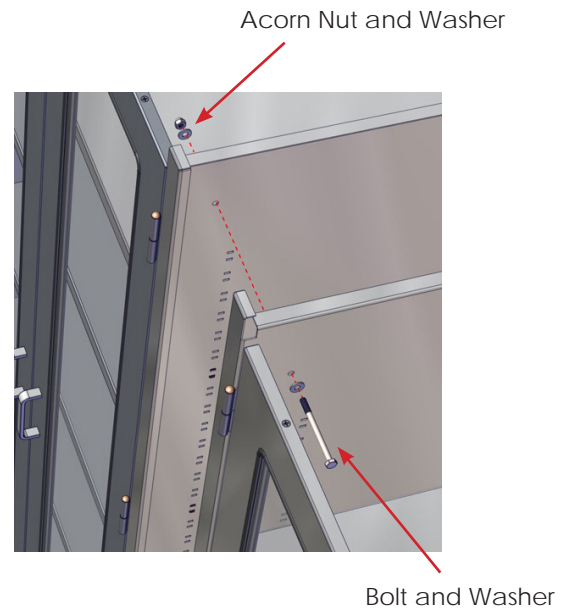

Fig. 13: Attaching Banked Cabinets/Front Connections
8. Insert a 1/4" bolt and one washer through one of the top front connection holes until it protrudes from the other cabinet. Secure with the washer and acorn nut. Repeat with the center front and bottom front connection holes (Fig. 13).